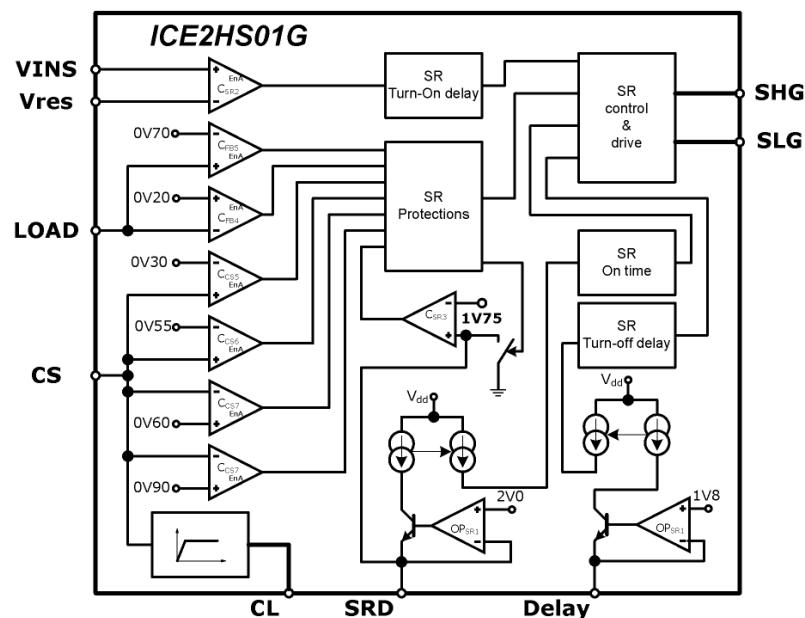

Figure 12 Synchronous rectification control block diagram
Synchronous Rectification (SR) in a half-bridge LLC resonant converter is the key to achieve very high efficiency, and this is the major benefit from the patent pending method integrated in ICE2HS01G. The control of Synchronous Rectification in ICE2HS01G have four main parts: On time control, turn-on delay, turn-off delay and protections, with the block diagram shown in Figure 12.